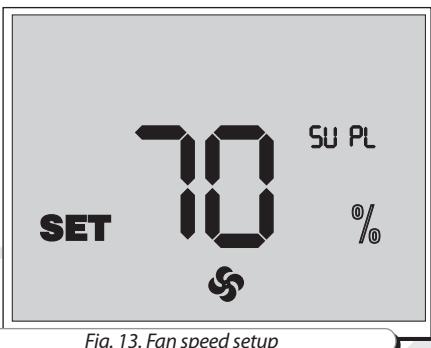

Fig. 13. Fan speed setup
- To adjust the supply fan capacity press and hold the button  and press the button  to set the fan speed up or the button  to set the fan speed down. Each pressing of the button  and  increases or decreases the supply fan by 1%. If the button  remains pressed the display indicators show the current supply fan speed, fig. 13.